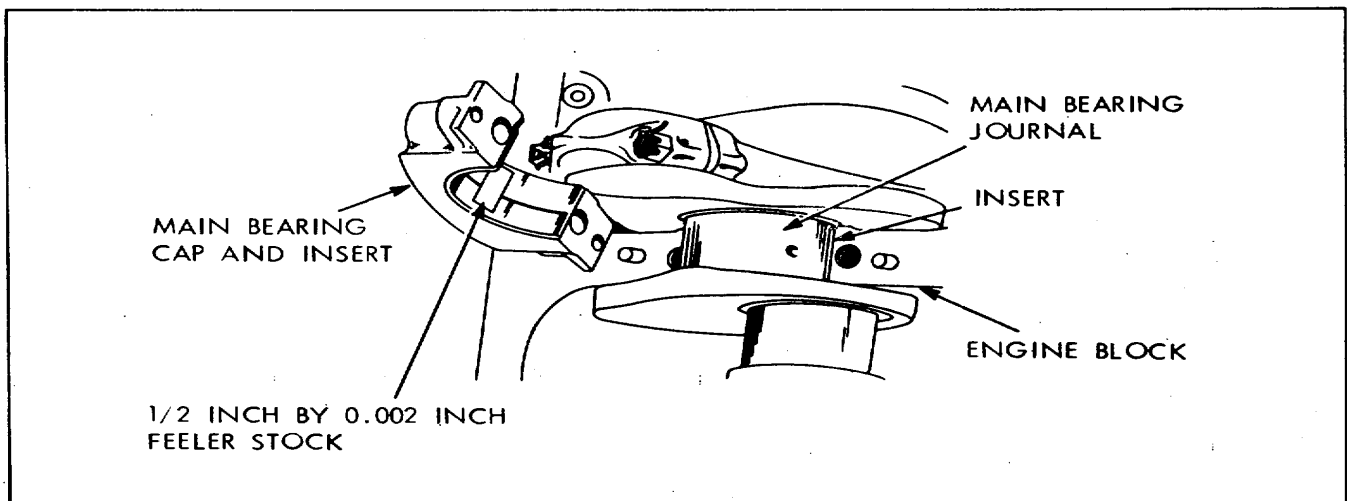

Figure 6-38. Measuring Main Bearing Clearance
(3) Remove main bearing capscrews and remove bearing caps from engine block.
(4) Remove bearing insert halves (Figure 6-38) from caps.
(5) Insert bearing removing tool or flat head rivet, with head thickness less than that of bearing shell, into oil hole in the crankshaft journal. Rotate crankshaft so that tool or rivet forces upper bearing half out of engine block. Make certain to rotate crankshaft in proper direction so that bearing lock is pushed out of notch in engine block.
(6) Coat new bearing half with OE and insert in same manner as old bearing half was removed.
(7) Coat lower bearing half with OE and insert in bearing cap.
(8) Install bearing cap following procedures in b. below to check clearances. After clearance is checked, leave capscrews loose so other bearings may be accurately checked.
(1) Remove bearing cap and place a piece of 0.002 by 1/2 by 1 inch shim stock in bearing cap (Figure 6-38).
(2) Install bearing. cap and tighten as given in a.(10) above. If crankshaft rotates with noticeable drag, clearance is correct. Remove shim stock and reassemble bearings to engine.
(3) Clearance may be checked by plastigauge method-if plastigauge and special measuring scale are available. If this method is used, do not rotate crankshaft with plastigauge in place. Maximum allowable crankshaft bearing clearance, if bearing shells are being reused, is 0.0029 inch.